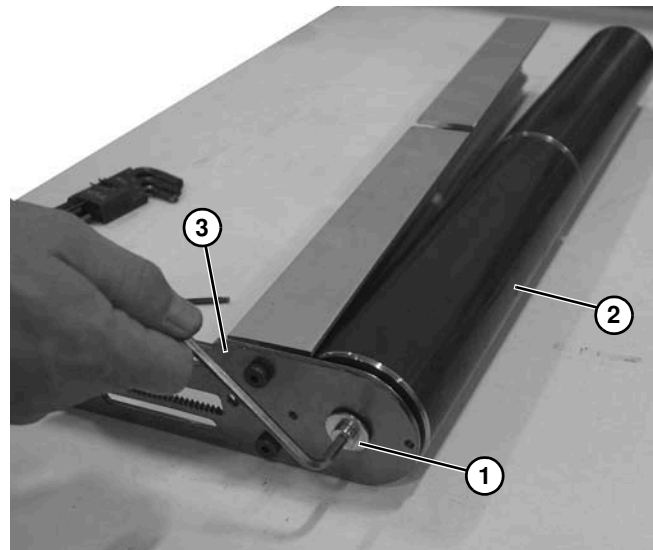

Figure 113
13. On opposite end, remove screw and washer (**Figure 113, item 1**), and remove pulley (**Figure 113, item 2**) from remaining tension tail plate (**Figure 113, item 3**).